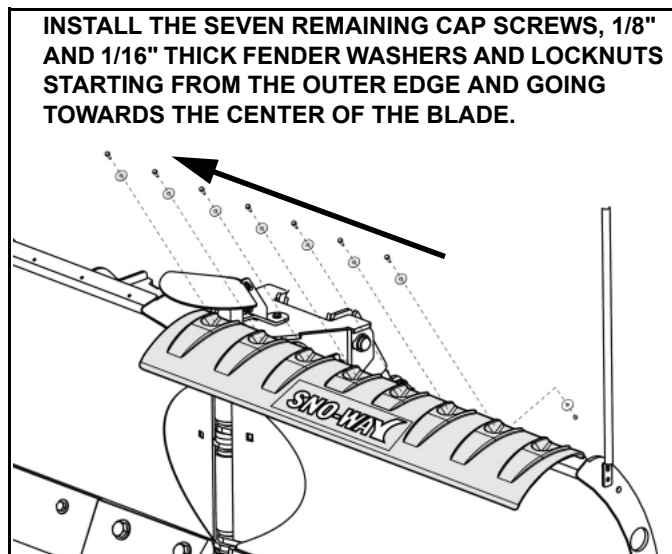

Figure 7
13. Complete the DS Snow Deflector section (#1) installation on the DS V-Blade wing by installing (7) additional 1/4"-20 x 1-1/4" Hex Head Cap Screws (#4), (7) 1/4" ID x 1-1/2" OD x 1/8" Thick Fender Washers (#5), (7) 1/4" ID x 1-1/2" OD x 1/16" Thick Fender Washers (#6), and (7) 1/4" x 20 Locknuts (#7) (going towards the center of the blade). (See Figure 7.)